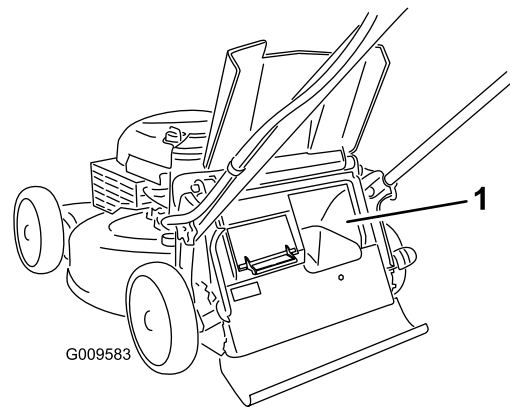

**Figure 19**
- For bagging the grass and leaf clippings, press the button on the bag-on-demand lever and move the lever forward until the button on the lever pops up (Figure 19).